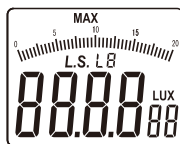

Figure 3-1-3
- Press the **"MAX/MIN/LS"** key and **"MAX"** will appear on top LCD display (as shown in figure 3-1-3);